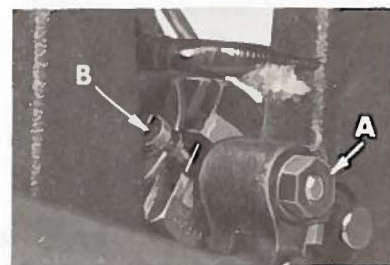

Fig. 10
Set the stitch to the required length. This is accomplished by loosening locknut (A, Fig. 10) (it has a left hand thread) and turning the stitch adjusting screw (B). Turning screw (B) clockwise shortens the stitch and turning it in a counterclockwise direction lengthens the stitch.